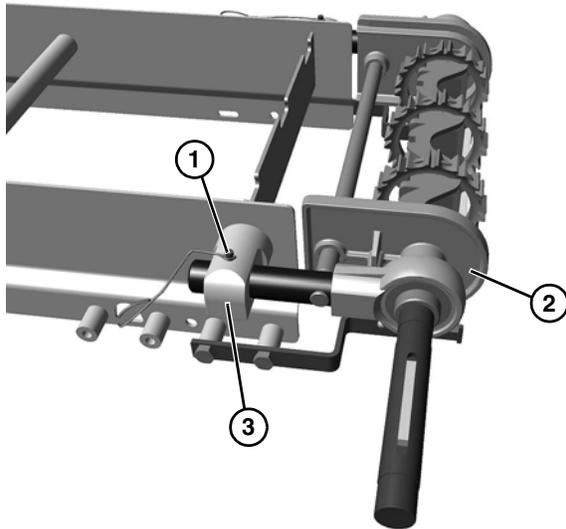

Figure 54
5. Remove the pull pin (Figure 54, item 1) from both sides of drive tail assembly.
6. Slide the drive tail assembly (Figure 54, item 2) out of the take up blocks (Figure 54, item 3).